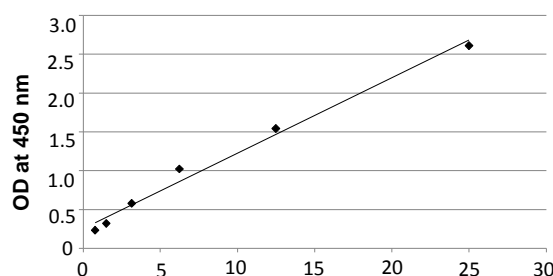
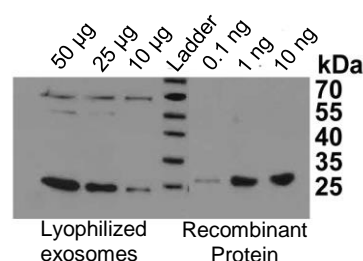

Figure 4. CD9 titration of plasma healthy donor exosome standards.
Figure 5. CD9 marker detection by Western Blotting on lyophilized exosomes from human plasma and the recombinant CD9 protein.
12. **Sensitivity:** The sensitivity of the ExoQuant™ was compared to Western blot. The data reported in Figure 4 and 5 demonstrate that the sensitivity of the ExoQuant™ is higher than that of Western blotting. Figure 5 shows that 10 µg of lyophilized exosomes is equivalent to 0.1 ng of recombinant exosomal protein (CD9). Since the standard curve's lower concentration is 0.39 µg of lyophilized exosomes (Figure 4), the sensitivity of our test is around 39 pg of protein equivalent.